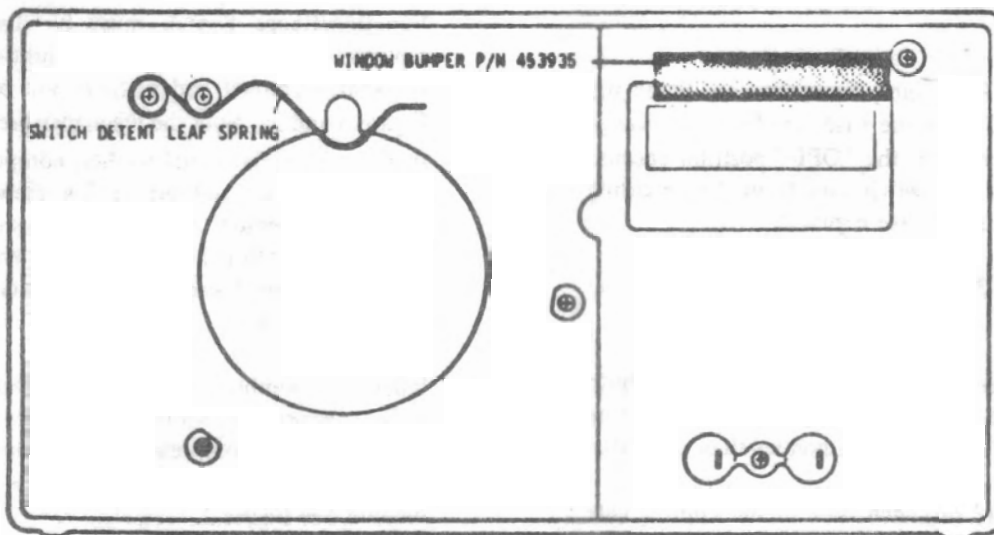

Figure 2
7. Remove the PCB assembly from the case. When the assembly is free from the case, the Function/Range Switch is NOT held in the "OFF" position because removal releases the switch cam from the detenting mechanism in the case. See Figure 2.
16. When the assembly is to be installed in the meter case, a bent paper-clip, soldering-aid tool, or equivalent must be used to compress the switch detent leafspring to mate with the Function/Range switch knob detents. See Figure 2.